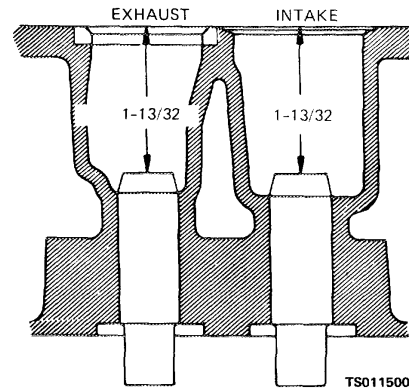

Figure 4-4. Valve guide installation dimensions.
(6) If the valve guides are worn or damaged, press out the guides from the combustion side, using a driver that is slightly smaller than the external diameter of the guide. With the driver, press in new guides from the combustion side. When properly seated, valve guide tops will be 1-13/32 inches (3.5155 cm) from the top of the block (fig. 4-4).
(7) Check the exhaust valve seat inserts for cracks or loose mountings. Pull out faulty valve seat inserts. Replace original valve seats with new 0.010 inch (0.0250 cm) oversized valve seats. Counterbore